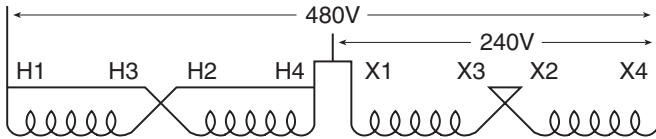

Figure 1
**36. Can 4-Winding Single Phase Transformer be auto-connected? Yes.** There are occasions where 480 volts single phase can be stepped down to 240 volts single phase by autoconnecting a standard 4-winding isolating transformer as shown in Figure 1. If connected in this manner, the nameplate kVA is doubled. For example: A 10 kVA load can be applied to a 5 kVA 4-winding transformer if connected per Figure 1.